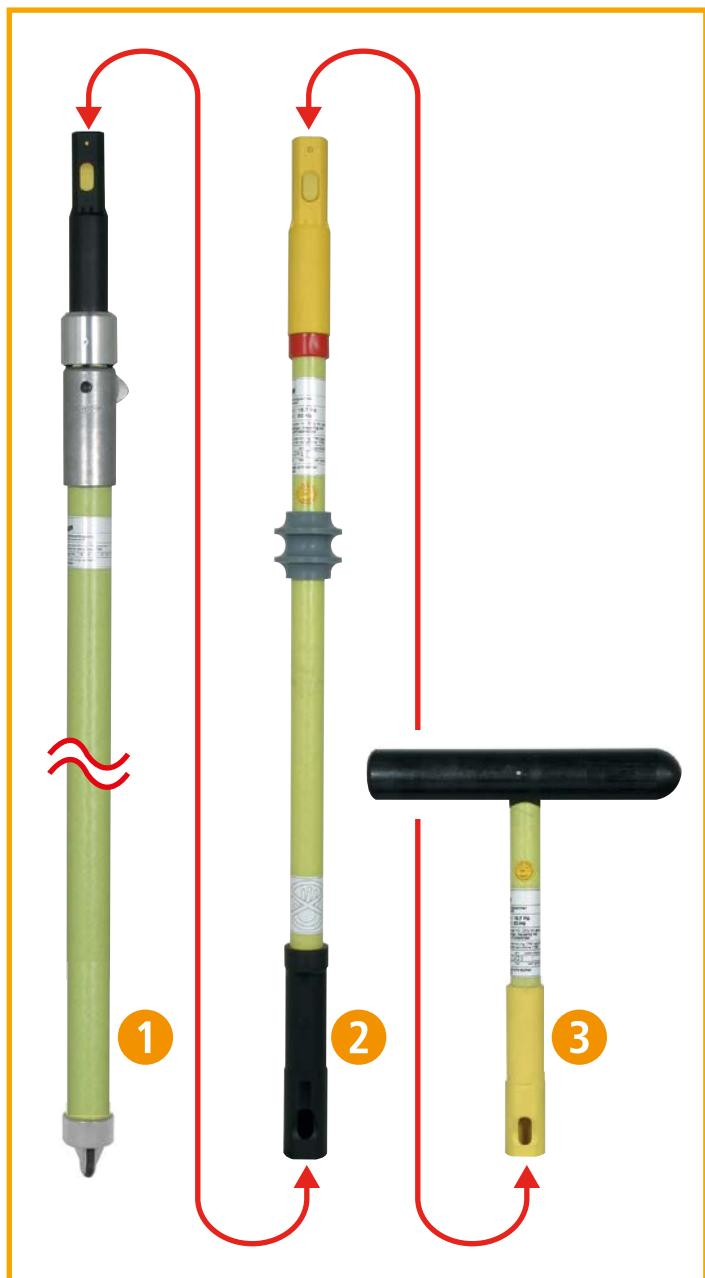

Figure 1 Components
- ⇒ The insulating stick with operating head may also be used in wet weather conditions (rain, fog, etc.). The insulating stick (item 2, page 6) and the operating head (item 3, page 6) have been tested for discharge current in wet conditions and for protection against bridging in wet conditions as per DIN VDE 0682-411, para. 7.1.2 and para. 6.3.1 respectively. Live parts of an installation must not be contacted uninterrupted for longer than 1 minute in wet weather.
- ⇒ The insulating stick, extension handle and operating head must be checked for mechanical damage (for tight-fitting shields, tight-fitting of the red ring as well as the black marking ring; for cracks and deep scratch marks in the insulating clearance area, and the extension part, etc.) before assembly (see Figure 1, page 6). Defective components must be withdrawn from further use.